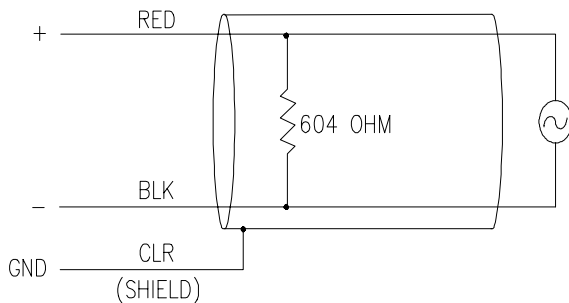

Figure 2. LI190SB Schematic
The LI190SB (refer to Figure 2) outputs a low level voltage ranging from 0 to a maximum of about 24 mV depending on sensor calibration and radiation level. A differential voltage measurement (Instruction 2) is recommended because it has better noise rejection than a single-ended measurement.
**-Sensor Calibration:** Assume the sensor calibration is 8 microamps/1000 micromoles  $s^{-1}m^{-2}$  (1000 micromoles = 1 mmole). The LI190SB outputs amperage which is converted to voltage by a 604 ohm shunt resistor in the cable, as shown in Figure 2. To convert the calibration from microamps to millivolts, multiply the calibration by 0.604. The example calibration changes to 4.83 mV/mmole  $s^{-1}m^{-2}$ .
**-Input Range Selection:** An estimate of the maximum input voltage is obtained by multiplying the calibration by the maximum expected PAR. That product is 9.66 mV for this example. Select the smallest input range which is greater than the maximum expected input voltage. In this case, the 15 mV range for the 21X and CR7, and the 25 mV range for the CR10(X) and CR500 are selected.